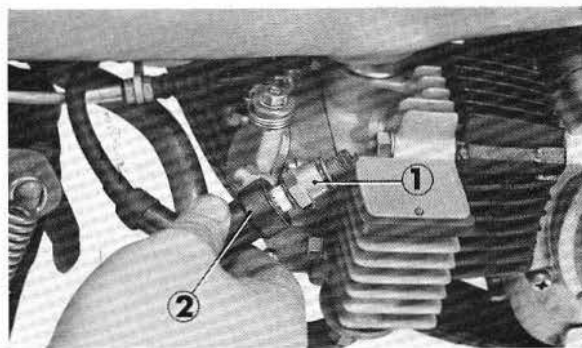

Fig. 3-4 ① Spark plug
1. First, check to see that the high voltage is being delivered to the spark plug. Ground the spark plug on the engine as shown in Fig. 3-4 and perform the starting process. If bluish white spark is seen jumping across the plug points, it is an indication that the spark plug, ignition coil, flywheel, A.C. generator are in good condition.